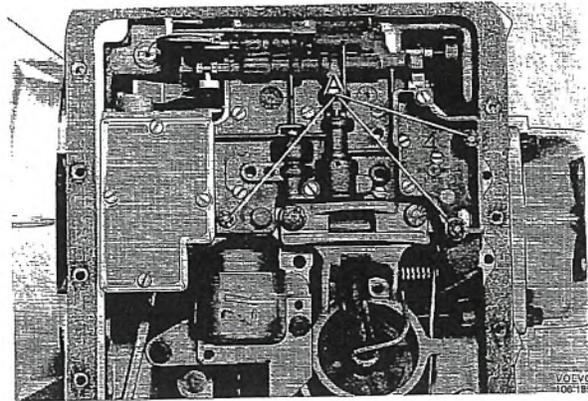

Fig. 4-72. Valve bodies assembly
4. Disconnect the downshift valve cable from the downshift valve cam. Unscrew the three screws which retain the valve bodies assembly to the transmission housing, see Fig. 4-72. Lift the